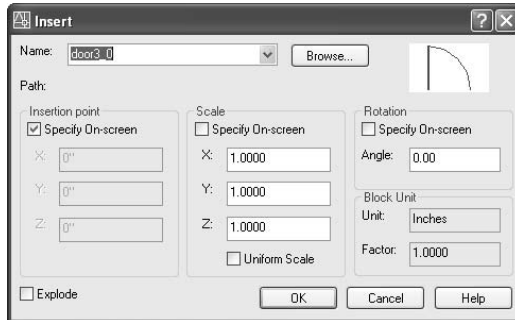

FIGURE 7.5: The Insert dialog box
1. On the Draw toolbar, click the Insert Block button to open the Insert dialog box (see Figure 7.5). At the top, the Name drop-down list